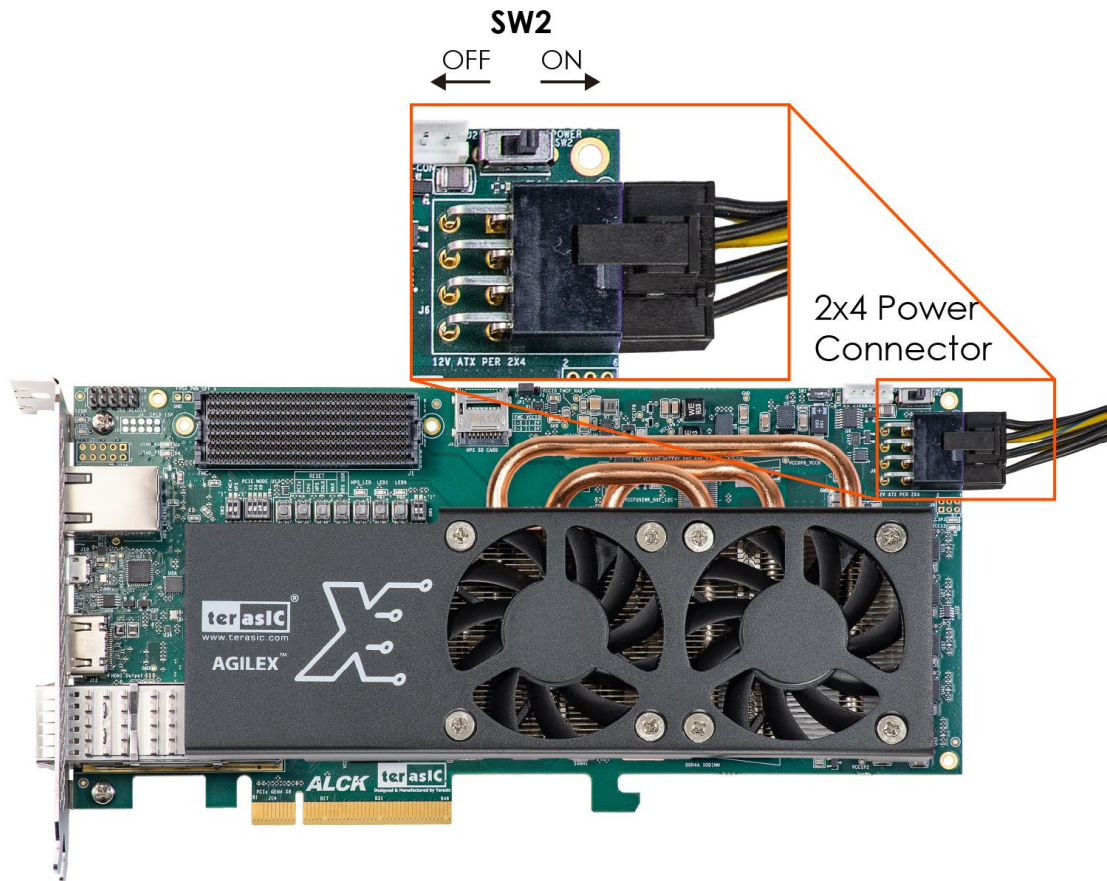

Figure 1-5 Power on the board from external Power
To power up the Board in stand-alone mode, user need to connect a 2x4 PCIe power connector on the Board to the external 12V DC power supply, then turn on the power switch SW2 on the board to power on the board (See **Figure 1-5**).
1. Connect your computer to the development board by plugging the USB cable into the micro USB connector of the board. (Connection setup is shown in **Figure 1-5**)